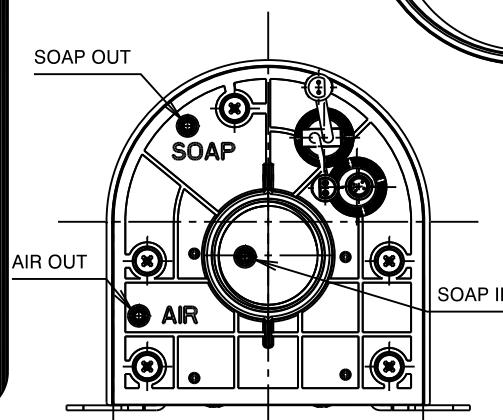

Fig.11 - Soap control unit ports
3) Connections :**a) Soap tube and air tube connections, (Fig. 7 & Fig. 11):**